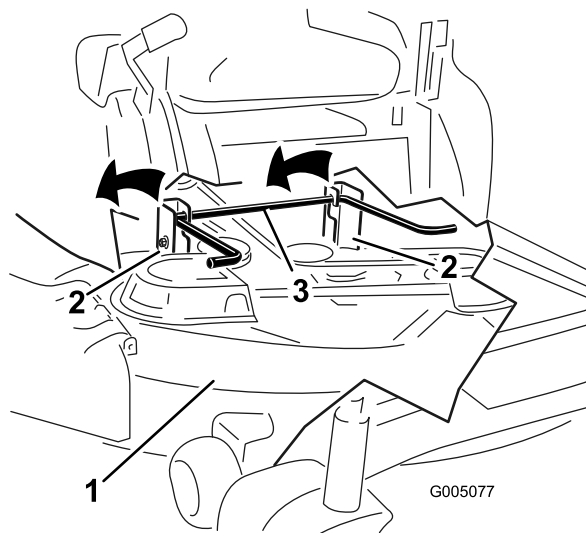
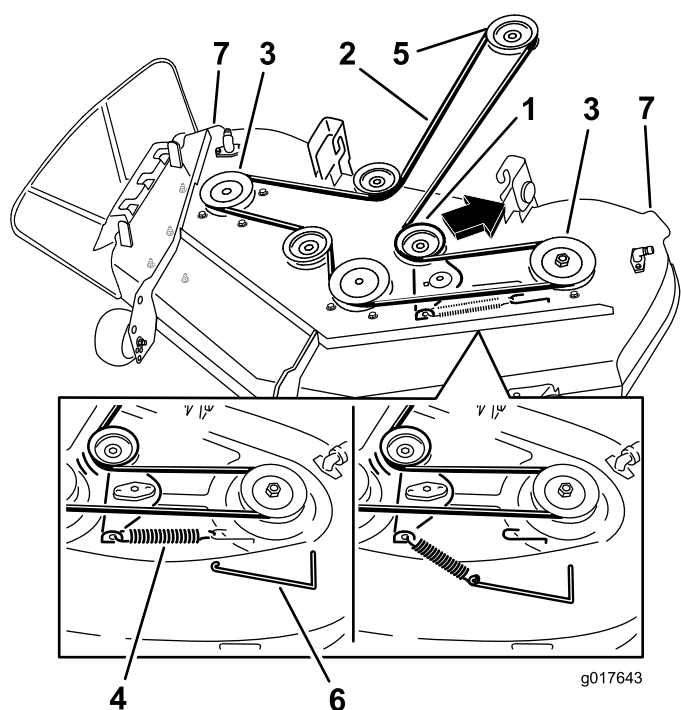

Figure 61
Figure 64
5. Using the mower deck handles, lift the mower deck and hanger brackets clear of the rear lift rod and lower the mower carefully to the ground (Figure 61 and Figure 64).
4. Using a spring removal tool, (Toro part no. 92-5771), remove the idler spring from the deck hook to remove tension on the idler pulley and roll the belt off of the pulleys (Figure 64).
5. Lift the rear of the mower deck and guide the hanger brackets over the rear lift rod (Figure 61).
5. Route the new belt around the engine pulley and mower pulleys (Figure 64).
6. Using a spring removal tool, (Toro part no. 92-5771), install the idler spring over the deck hook and placing tension on the idler pulley and mower belt (Figure 64).